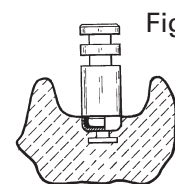

Fig. 10
4. Snap a Locator Female Analog (636068 – 4 mm) onto each Impression Coping in the impression. The analog female must not fall off when turned upside-down with vibration (Fig. 10).